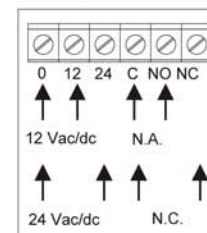

Fig. 9 / Bild. 9
- 7 - Make the electrical connections, power the receiver (Fig. 9) and the transmitter (Fig. 10);
Connect the output contact to the terminals C and NO for a normally open contact or C and NC for a normally closed contact (Fig. 9).